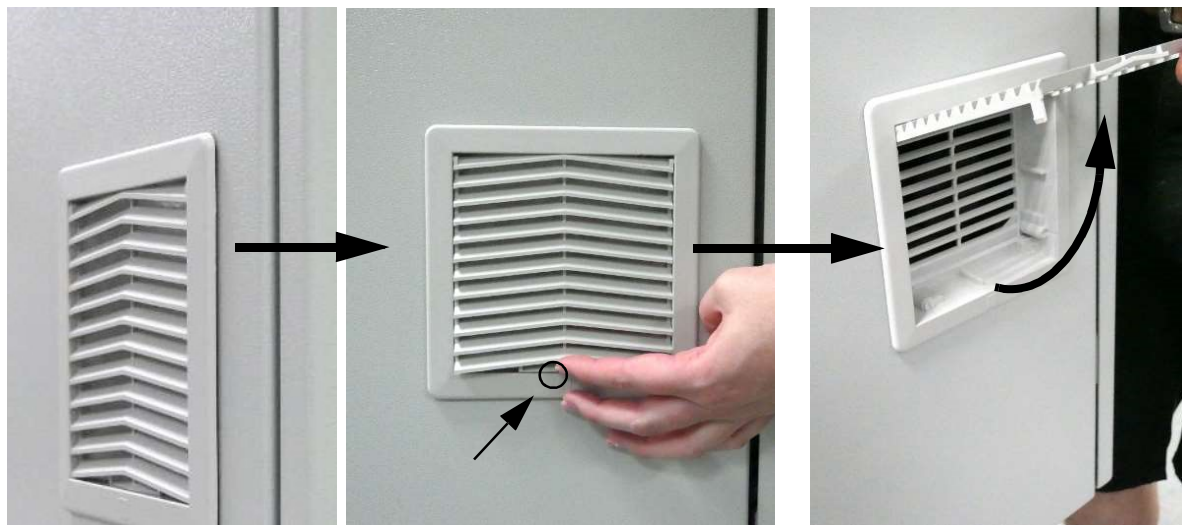

Fig. 140: Replace the Filter Mats on both sides of the Ambient Air Preparation Unit
1. Open the ventilation grids on the left and the right side of the analyser by levering out the ventilation flap (Fig. 140, page 216).